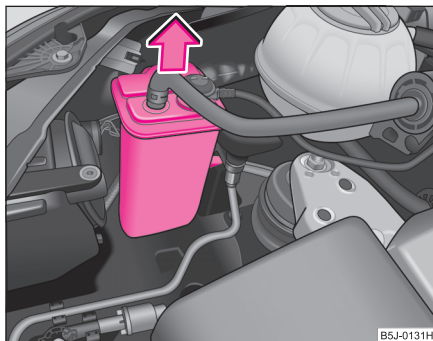

Fig. 172 Removing the
- For a vehicle with petrol engine remove the activated charcoal filter system before replacing the bulb in the right front headlight ⇒ fig. 172.